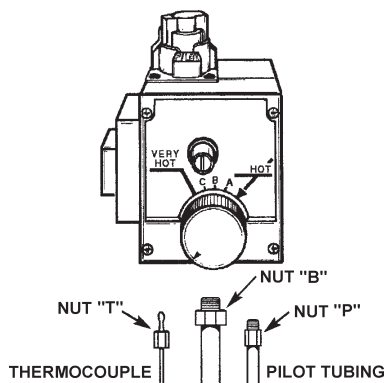

FIGURE 14.
10. Loosen flare nut "T" holding thermocouple to bottom of gas valve with 3/8" open-end wrench and pull down to remove, see Figure 14.
11. Loosen flare nut "P" holding pilot line to bottom of gas valve with 7/16" open-end wrench and pull tube down to remove, see Figure 14.
12. Loosen flange nut "B" holding burner tube to bottom of gas valve with 3/4" open-end wrench and pull down to remove, see Figure 14.